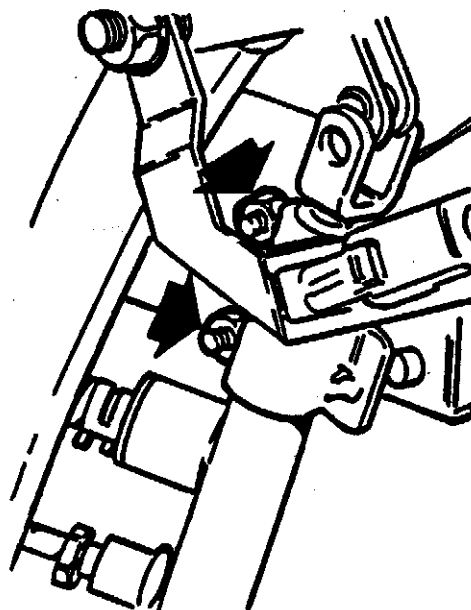

Figure 5. Fit the master cylinder onto its mounting bracket and tighten the nuts.
18. Fit the master cylinder onto its mounting bracket (Figure 5). Refit the nuts and tighten. Torque: 6-14 Nm (4.5-10.5 ftlb.)